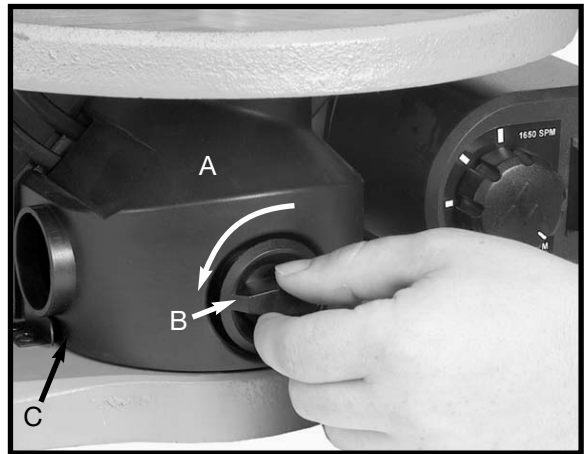
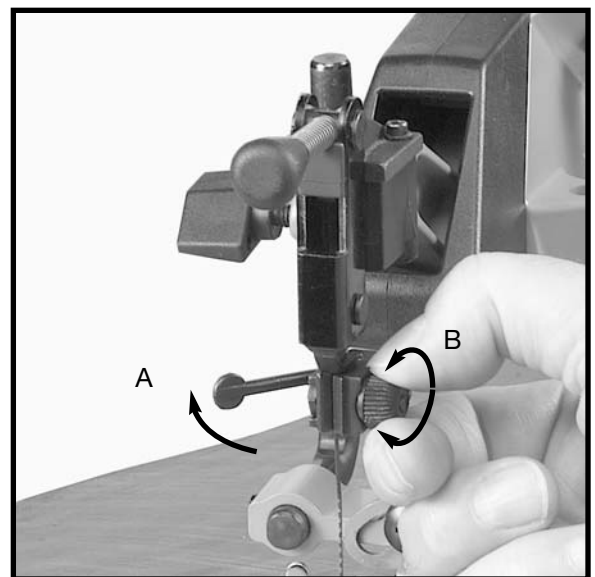
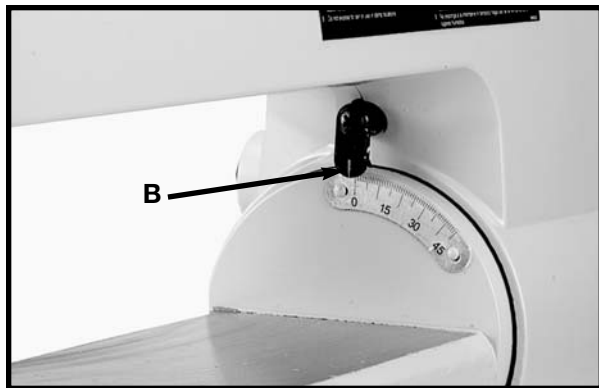
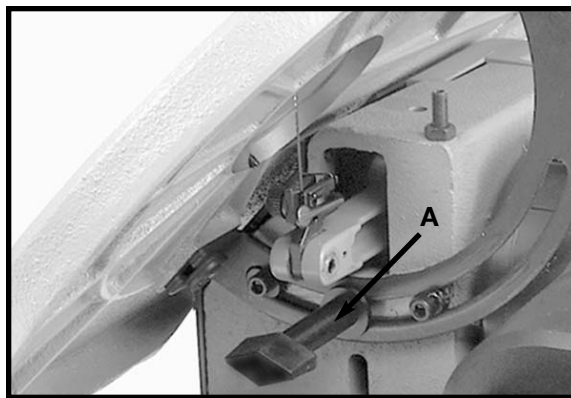

Fig. 12
Fig. 17
Fig. 19
Fig. 18
4. Remove the dust collection cup (A) by rotating knob (B) 90° as shown in Fig. 12. Slide dust cup out of the guides (C) by pulling it toward the front. **NOTE: DO NOT OPERATE THE UNIT WITH THE DUST CUP REMOVED.**
1. Move the blade holder chuck locking lever (A) Fig. 17, to the rear (open) position, as shown.
2. Turn chuck clamping knob (B) Fig. 17, clockwise to tighten and counterclockwise to loosen the clamping action of the blade holder chuck. Very little movement of knob (B) will be necessary. **NOTE:** Only the upper chuck is shown. Clamping action of the lower chuck is adjusted in the same manner and can be accessed by removing dust cup shown in Fig. 12.
The table on your scroll saw can be tilted 45° to the left for bevel cutting operations by removing the dust cup as shown in Fig. 12 and loosening table lock knob (A) Fig. 18, tilt the table to the desired angle indicated on degree scale (B) Fig. 19 and tighten lock handle (A) Fig. 18.
1. Loosen table lock knob as shown in Fig. 18 and move the table all the way to the right until angle indicator shown in Fig. 19 is on "0".
Note: After adjusting table, reposition the angle indicator (B) Fig. 19 to "0" degrees.